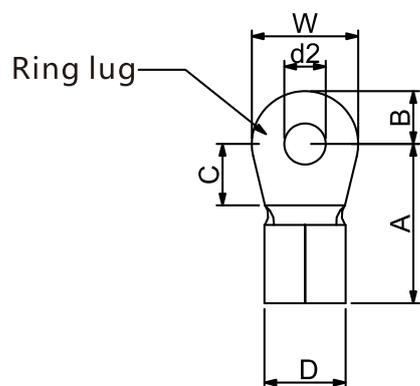

Figure 4-22
- Use Figure 4-22 to choose terminal wire size.